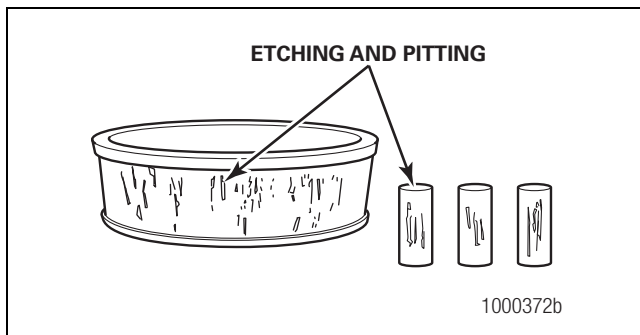

Figure 5.10
- There is damage on the rollers and on the surfaces of the cup and the cone inner race that touch the rollers. Figure 5.10.